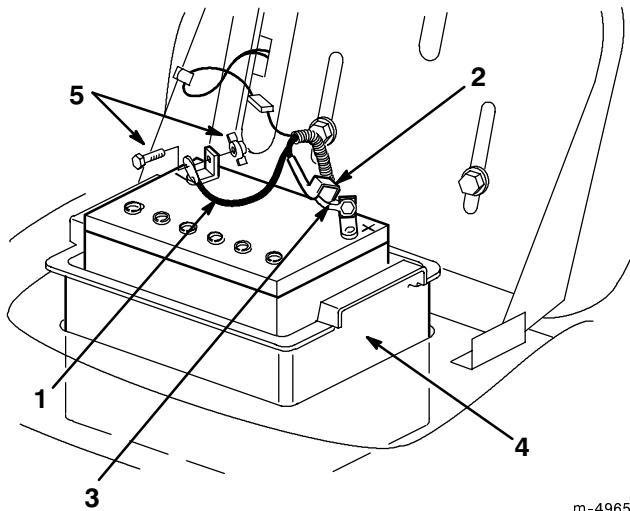

Figure 17
- Disconnect the negative (black) ground cable from the battery post (Fig. 17).
- Slide the rubber cover up the positive (red) cable. Disconnect the positive (red) cable from the battery post (Fig. 17).
- Put the battery into the battery box and install it into the chassis (Fig. 17).
- Using the bolt and wing nut, connect the positive (red) cable to the positive (+) battery post (Fig. 17). Slide the rubber cover over the battery post.
- Using the bolt and wing nut, connect the negative (black) cable to the negative (-) battery post (Fig. 17).